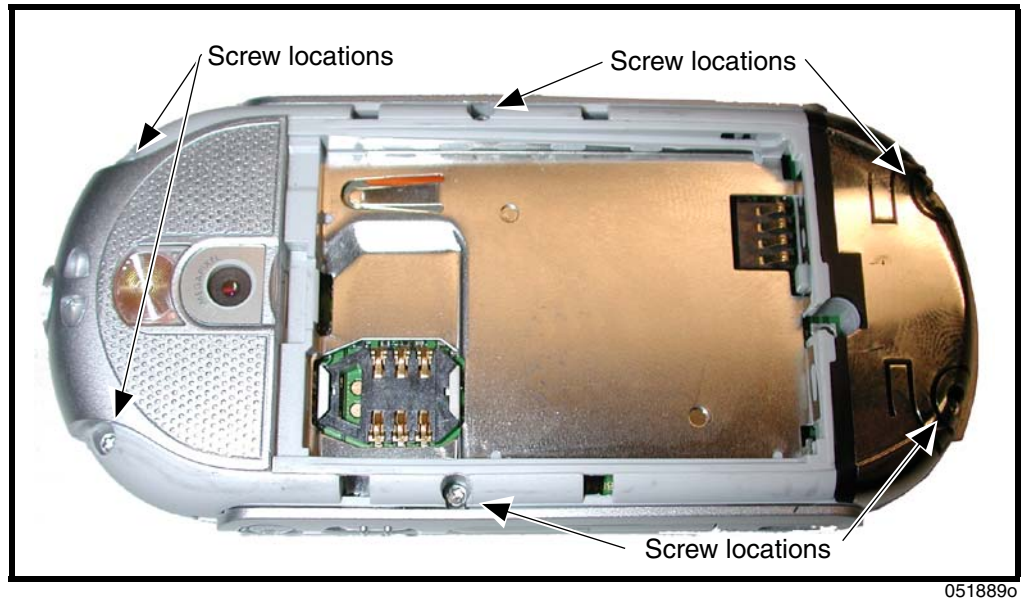

Figure 12. Housing Screw Locations
2. Use a T6 driver to remove 6 housing screws (see Figure 12). Set the screws aside for reuse.